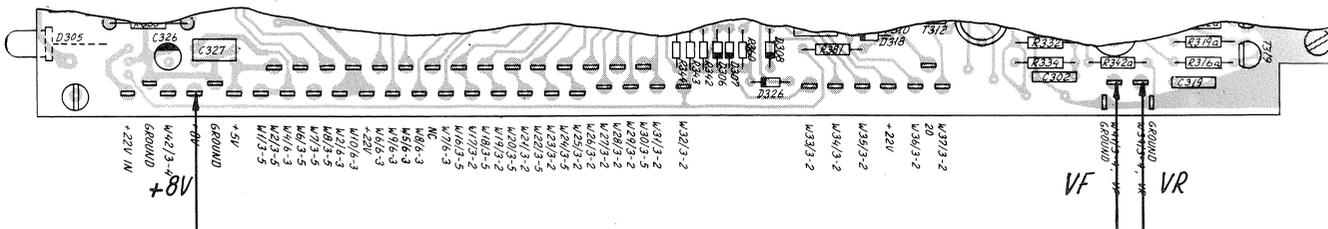

Fig. 2
- 5.3.14. Set the switch S305 (fig. 2) to position Manual.